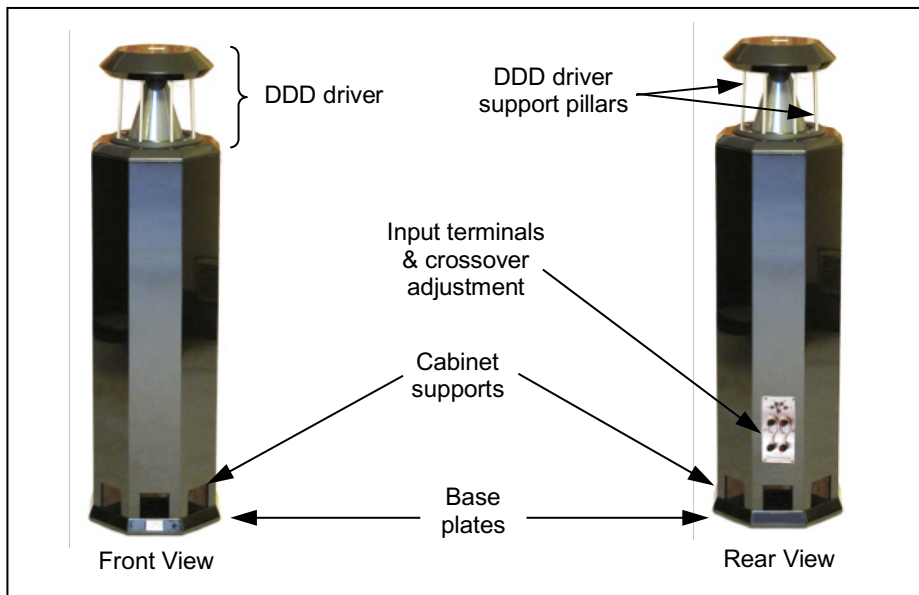

Figure 5. Principal features of the HRS-130
Do not lift them by the DDD driver support pillars (figure 5) as this may damage the driver.
Do not lift them by the cabinet supports (figure 5) as this may damage the cabinet.
**Do not lift by the DDD driver support pillars or by the cabinet supports – see figure 5.**